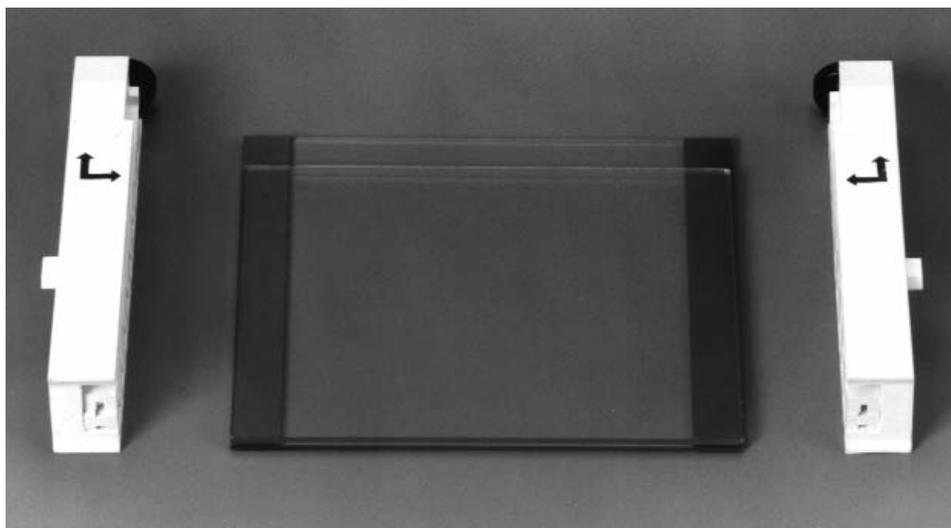

Fig. 7.2. Positioning glass plates, spacers, and clamps.
3. Loosen the single screw of each sandwich clamp by turning counterclockwise. Place each clamp by the appropriate side of the gel sandwich with the locating arrows facing up and toward the glass plates (Figure 7.2).